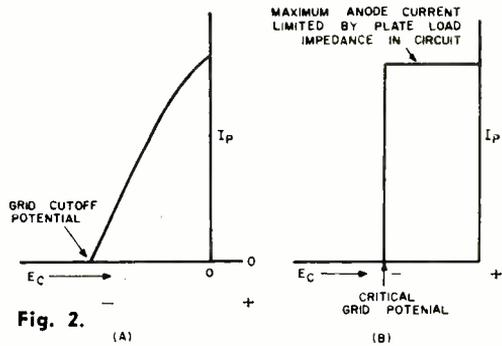

Fig. 2.
As one changes the control grid voltage in a vacuum triode, the plate current varies in a more or less linear fashion within a limited range, as in Fig. 2(A). In this sense, a vacuum tube performs like a smooth variable resistor. A thyatron, however, exhibits *switch-like* characteristics, as shown in Fig. 2 (B).